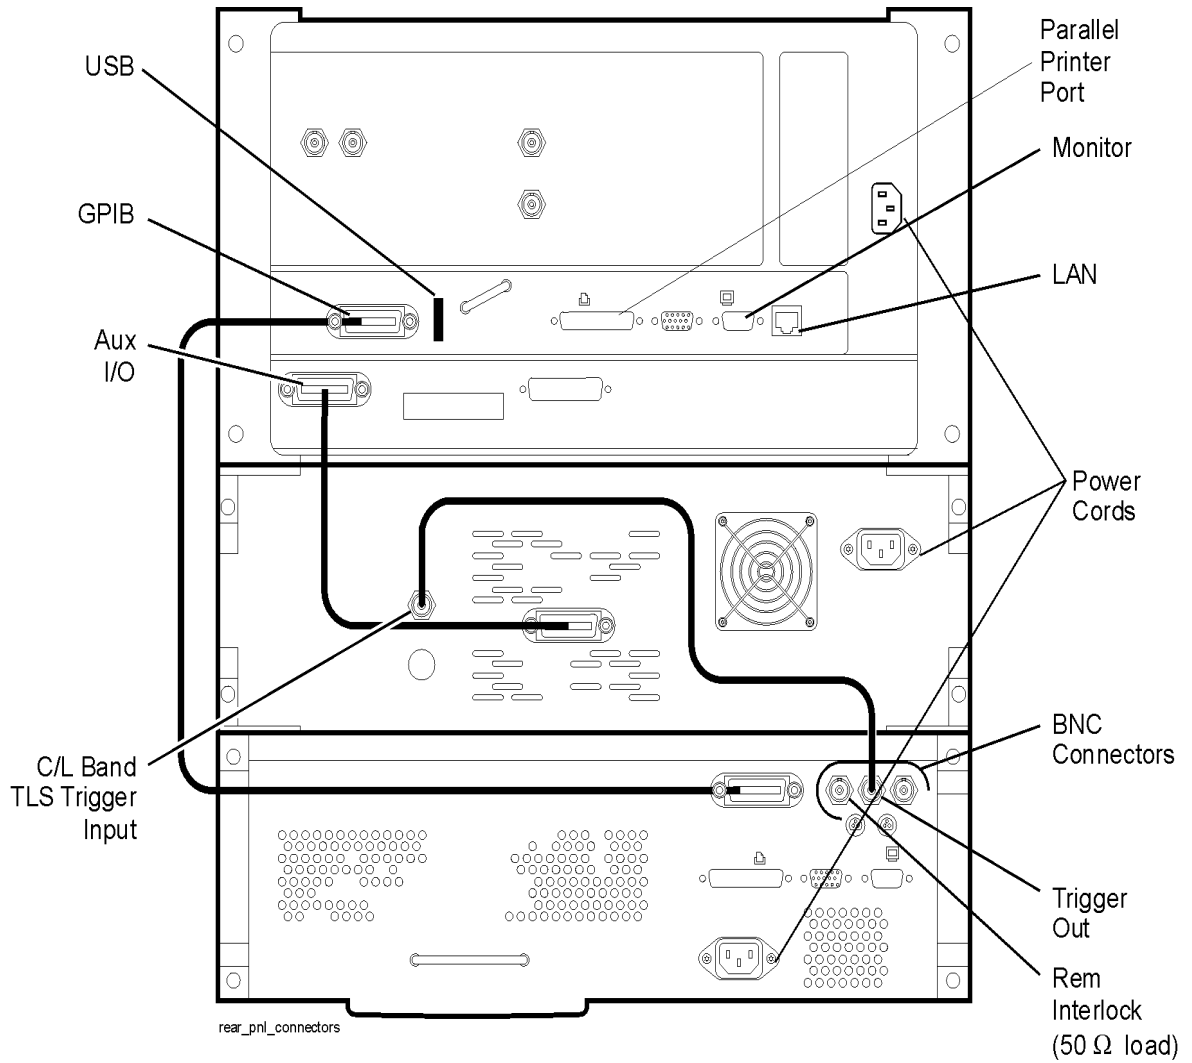

Figure 2 Rear Panel
- 5 On the rear panel, connect the cables as shown in Figure 2.